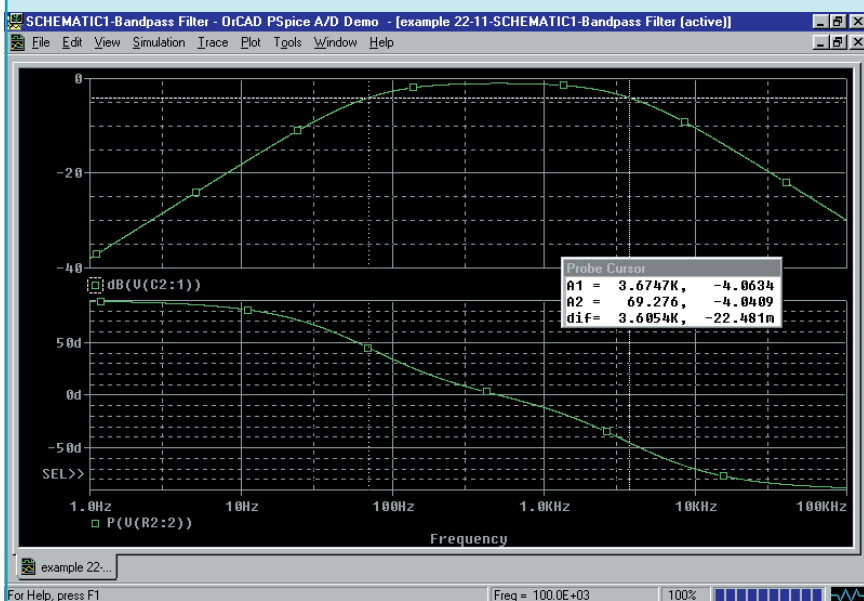

FIGURE 22–40
Solution The OrCAD Capture program is used to enter the circuit as shown in Figure 22–39. The analysis is set up to perform an ac sweep from 1 Hz to 100 kHz using 1001 points per decade. The signal generator is set for a magnitude of 1 V and a phase shift of 0° .
Finally, we obtain a trace of the phase shift for the circuit as follows. Click anywhere on the bottom plot. Click on Trace/Add Trace and then select **P(V(C2:1))** as the Trace Expression. The range of the ordinate is changed by clicking on the axis, selecting the Y Axis tab, and setting the User defined range for a value of -90° to 90° . The resulting display is shown in Figure 22–40.
- Use OrCAD Capture to input the circuit of Figure 22–35.